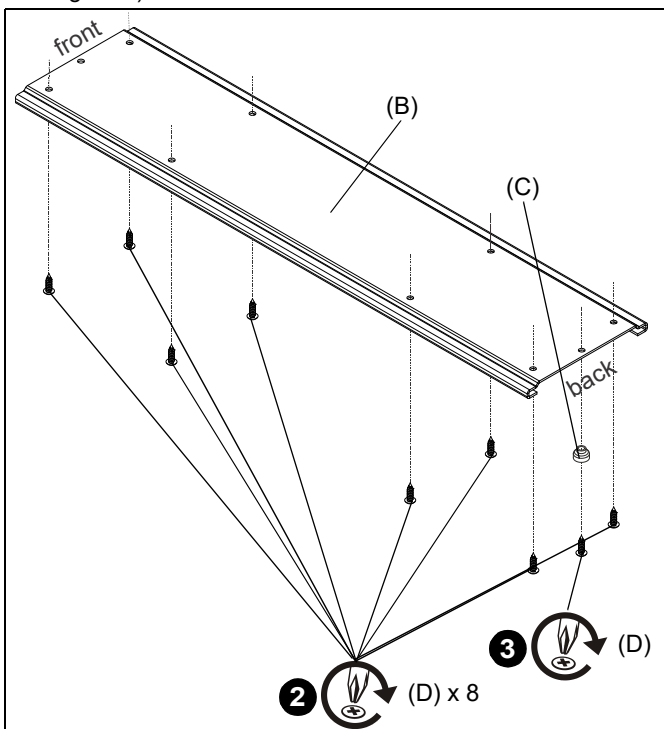

Figure 2
- Use eight #8 x 5/8" wood screws (D) to secure under-desk track (B) to desk. (See Figure 2)
- Install bumper (C) with one #8 x 5/8" wood screw (D). (See Figure 2)